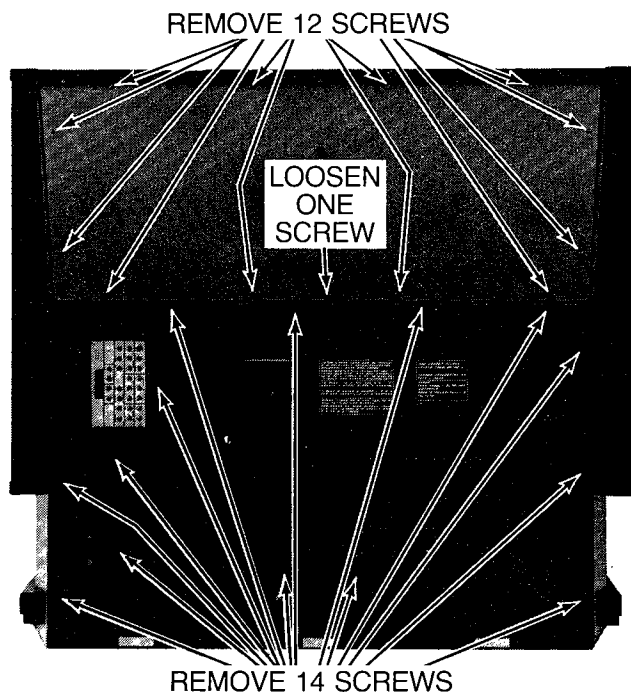

Fig. 12 — Cabinet Back
Adjust sub color control (R4214), to obtain desired color level (Fig. 12).
1. To remove top section of cabinet back remove twelve (12) 9/32 hex head screws and loosen one screw (Fig. 12).
2. To remove bottom section of cabinet back remove fourteen (14) 9/32 hex-head screws.